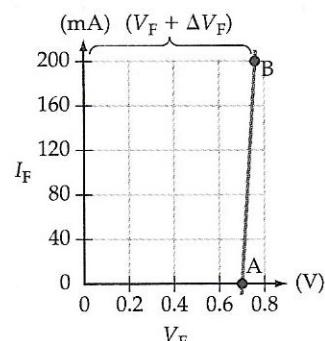

Figure 2-10 Diode piecewise linear characteristic, or straight-line approximation of the diode forward characteristic.
When the forward characteristic of a diode is not available, a straight-line approximation called the *piecewise linear characteristic* may be employed. To construct the piecewise linear characteristic, V_F is first marked on the horizontal axis, as shown in Fig. 2-10. Then, from V_F , a straight line is drawn with a slope equal to the diode dynamic resistance. Example 2-4 demonstrates the process.
$$V_F = 0.7 \text{ V} \quad (\text{see Fig. 2-10})$$
Plot point B (on Fig. 2-10) at
A more accurate equivalent circuit includes the diode dynamic resistance (r_d) in series with the voltage cell, as shown in Fig. 2-11b. This takes account of the small variations in V_F that occur with change in forward current. An ideal diode is also included to show that current flows only in one direction. The equivalent circuit without r_d assumes that the diode has the approximate characteristics illustrated in Fig. 2-8b or c. With r_d included, the equivalent circuit represents a diode with the type of piecewise linear characteristic shown in Fig. 2-10. Consequently, the circuit in Fig. 2-11b is termed the *piecewise linear equivalent circuit*.
- 2-3.2 A germanium diode has a maximum forward current of 100 mA and a 0.5Ω dynamic resistance. Construct the piecewise linear characteristics for this diode on Fig. 2-10.